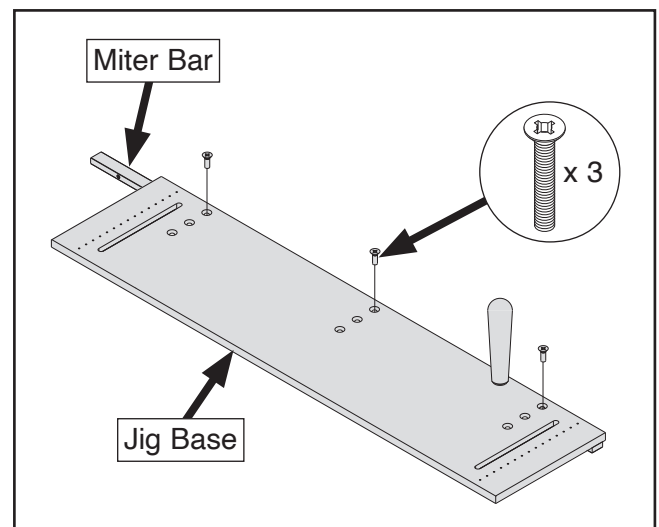

Figure 6. Attaching miter bar to jig base (right mounting hole setup shown).
6. Attach miter bar to jig base with (3) $\frac{1}{4}$ "-20 x $\frac{3}{4}$ " flat head screws (see **Figure 6**). Miter bar should extend past rear edge of jig base when installed correctly.